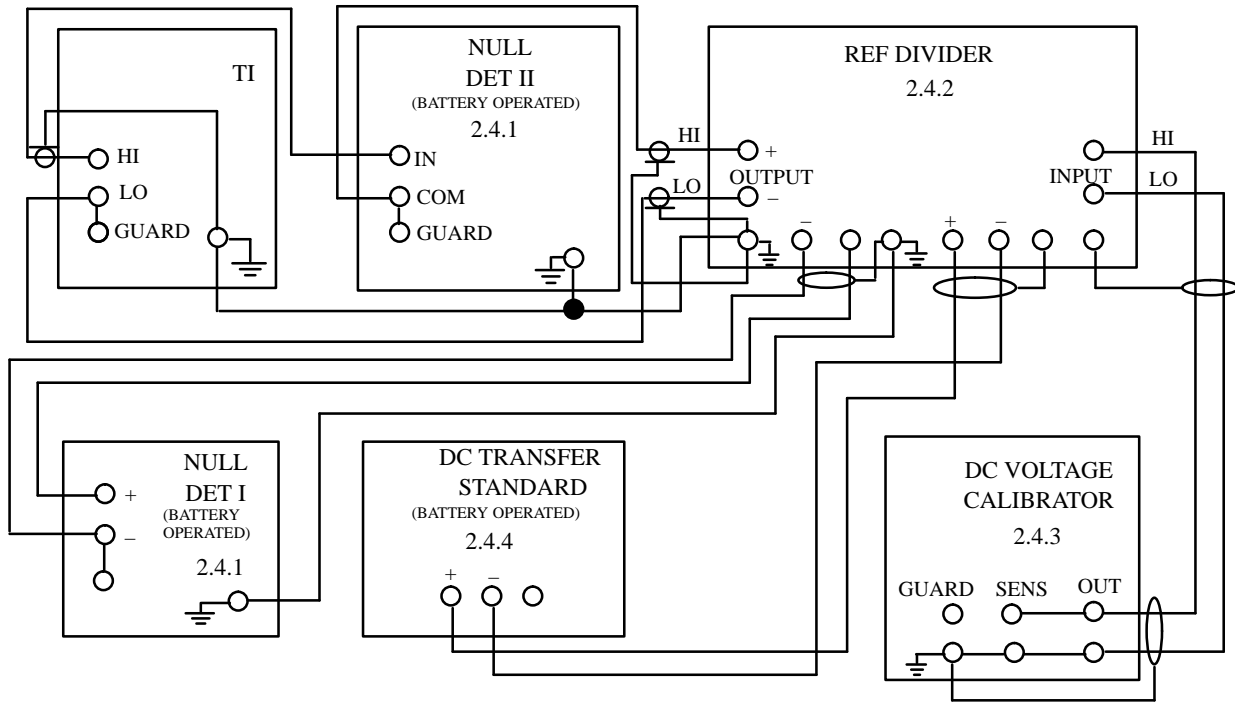

Figure 2. DC Output Voltage Range Test Configuration
4.2.4 Connect the equipment as shown in figure 2.
4.2.5.4 Reconnect the applicable test configuration (Figure 2 or 3).